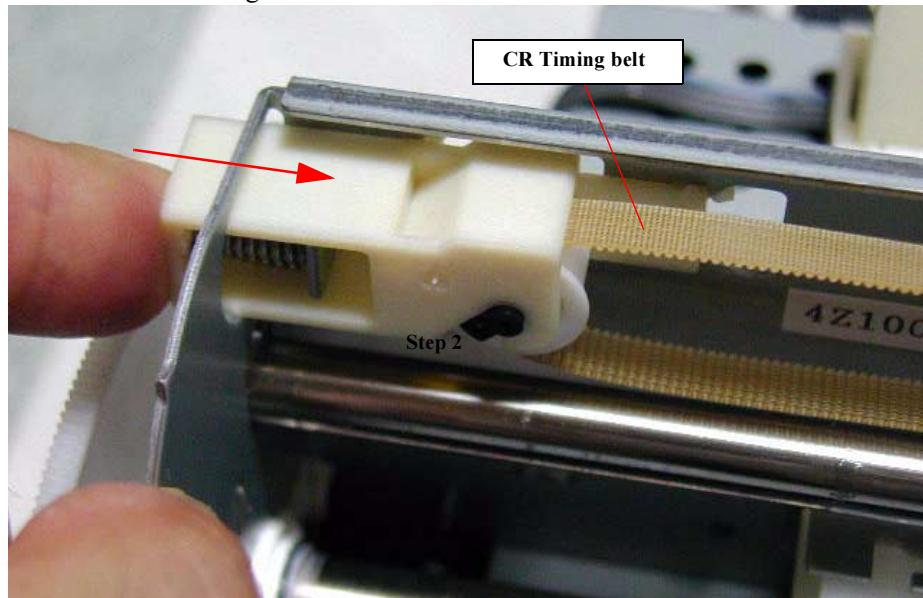

Figure 4-11. Removing the Timing Belt
4. Remove four Hexagon Nuts while holding the CR motor and remove the CR motor assembly. Refer to Figure 4-11.